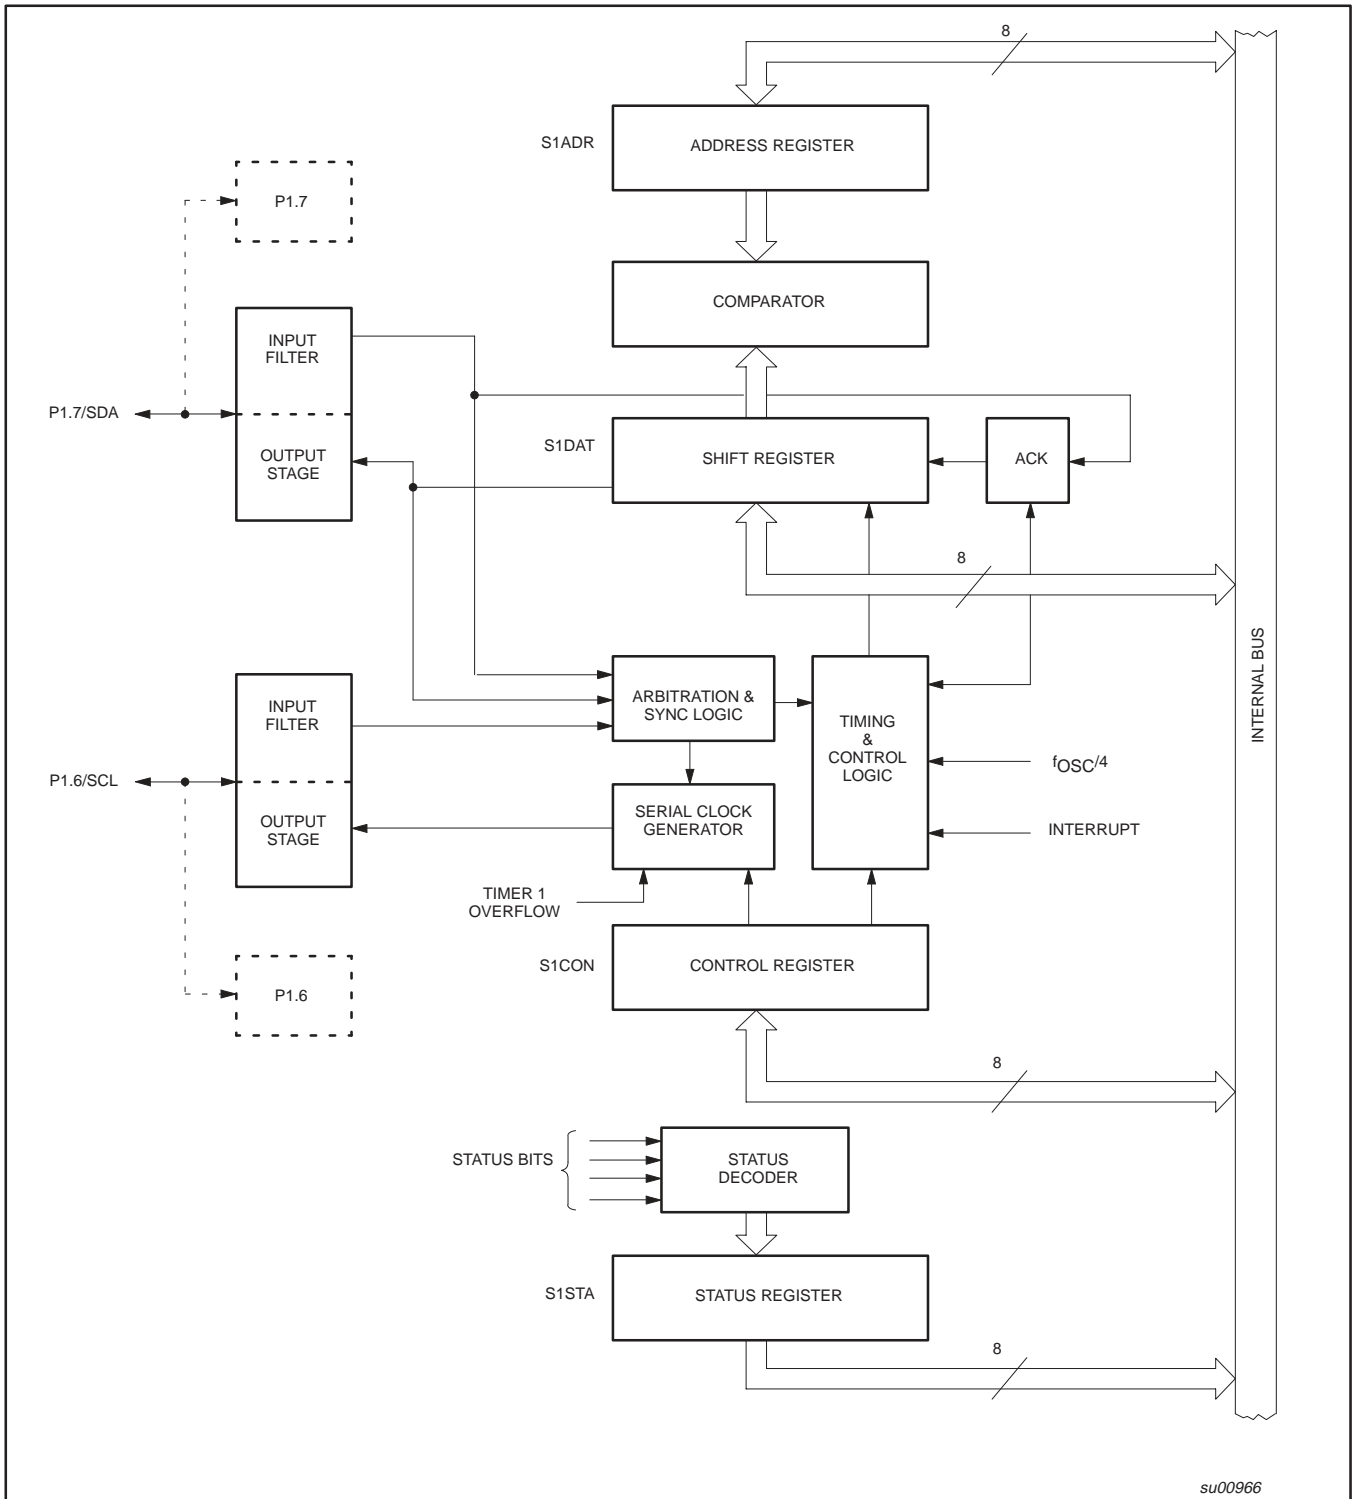

Figure 23. I2C-bus Serial Interface Block Diagram
**I2C-bus Implementation and Operation:** Figure 23 shows how the on-chip I2C-bus interface is implemented, and the following text describes the individual blocks.